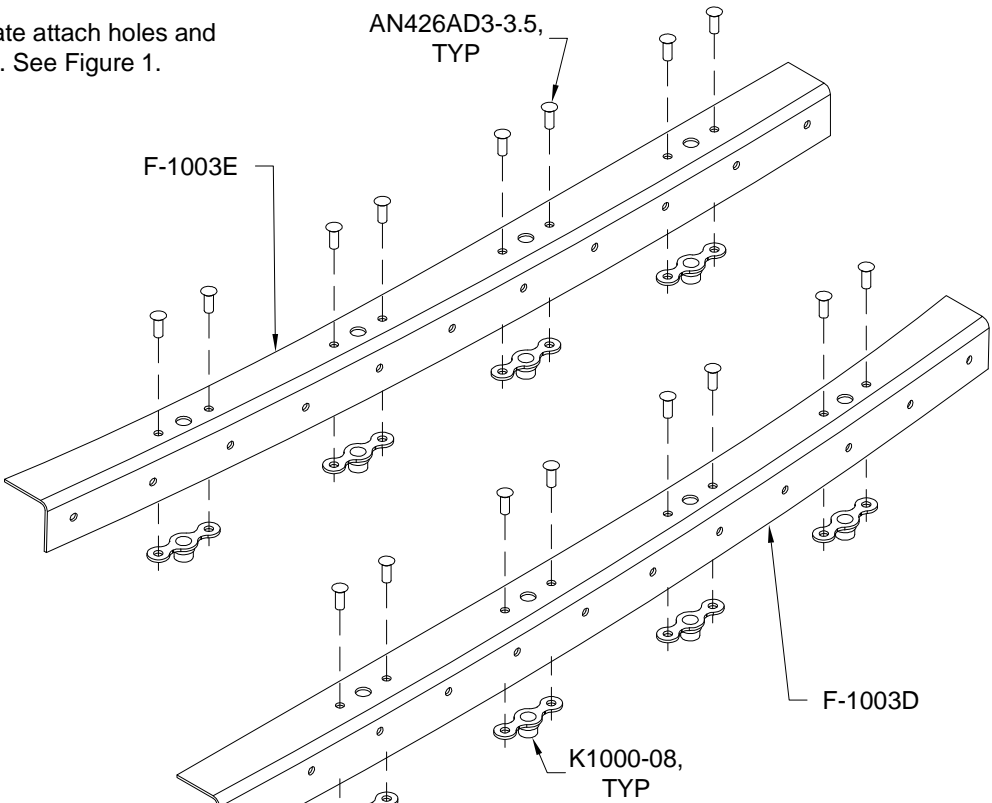

FIGURE 1:
Step 5: Remove the F-1003D and F-1003E Inst Panel Attach Flanges. Using a nutplate as a drill guide, match-drill #40 two nutplate attach holes for each screw hole. See Figure 1.
Dimple the nutplate attach holes and skin attach holes. See Figure 1.